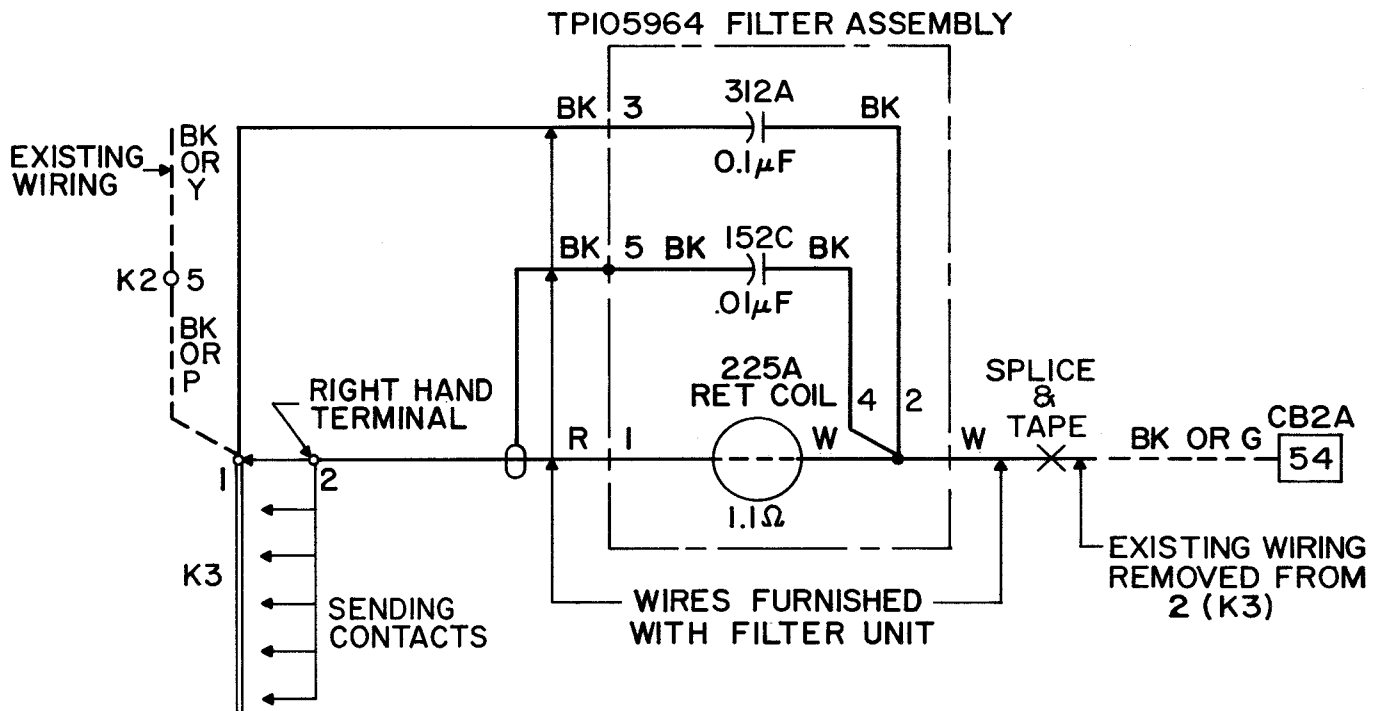

Figure 1 - (With LINE-TEST Key) 15A, 15B, and 15C Keyboards and 15 Perforator-transmitters
2.05 For 15A, 15B, and 15C keyboards and the perforator-transmitter refer to Figure 1 and connect the TP105964 filter assembly as follows: